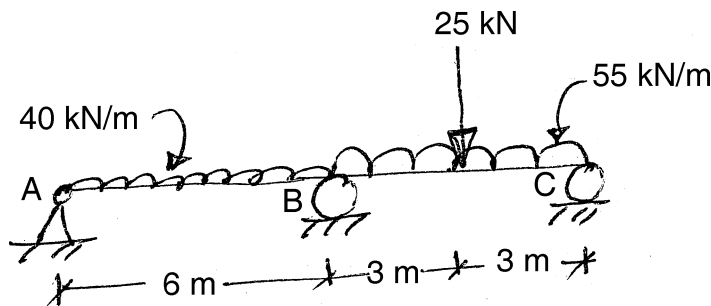

Fig. 5
5. Draw BMD of continuous beam as shown in Fig. 5 by stiffness method. 12